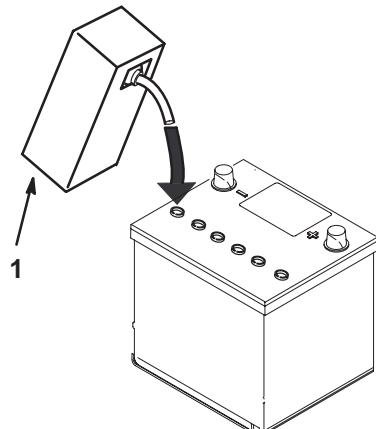

Figure 18
- Allow approximately 20 to 30 minutes for the electrolyte to soak into the plates. Refill as necessary to bring the electrolyte to within about 1/4 inch (6 mm) of the bottom of the fill well (Fig. 18).